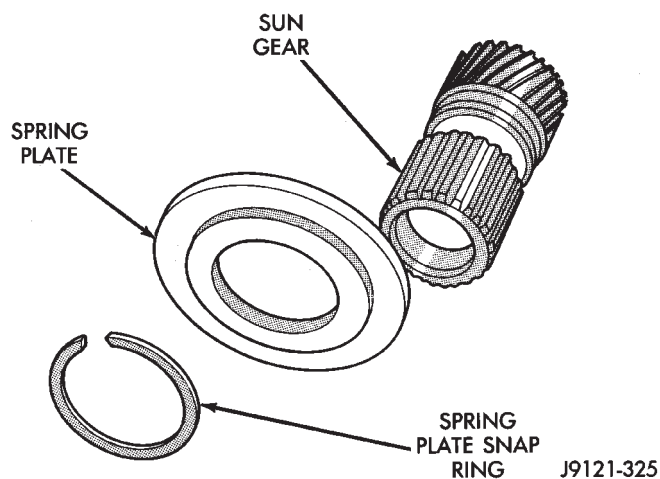

Fig. 44 Sun Gear And Spring Plate Assembly
(14) Install direct clutch spring plate on sun gear. Shoulder side of plate should face outward and toward front. Then secure plate to sun gear with snap ring (Fig. 44).
(15) Coat planetary thrust bearing and bearing contact surface of spring plate with generous amount of petroleum jelly. This will help hold bearing in place during installation.